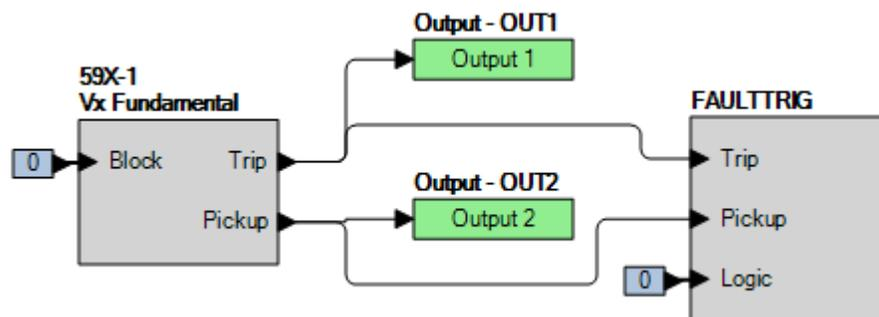

Figure 46-2. BESTlogicPlus Settings (Vx Fundamental Mode)
- Step 2: Use BESTCOMSP*lus* to configure the BESTlogicP*lus* programmable logic shown in Figure 46-2.
- Step 4: Prepare to monitor the 59X-1 function operation. Operation can be verified by monitoring OUT2 (see Figure 46-2).